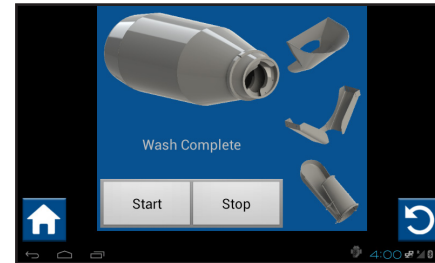

Figure 123
6. When the wash down cycles have completed, a “Wash Complete” message will display on the screen (Figure 123).